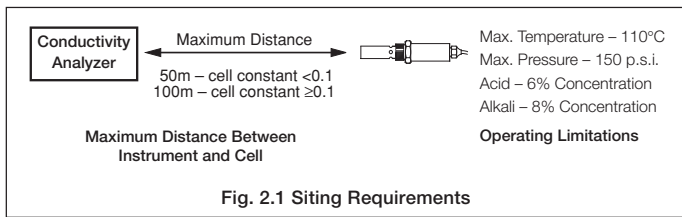

Fig. 2.1 Siting Requirements
2.1 Siting Requirements – Fig 2.1